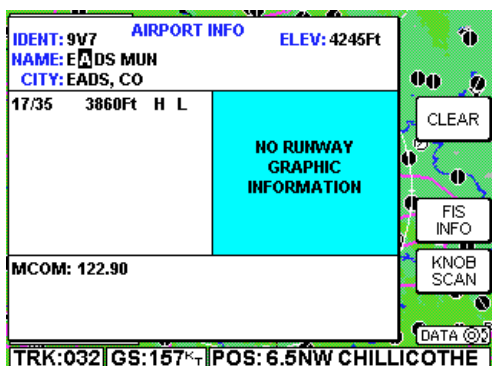

Figure 11
4. Turn the outer knob clockwise until the cursor is positioned for the next character. Turn the inner knob to select an **A** as in Figure 11.